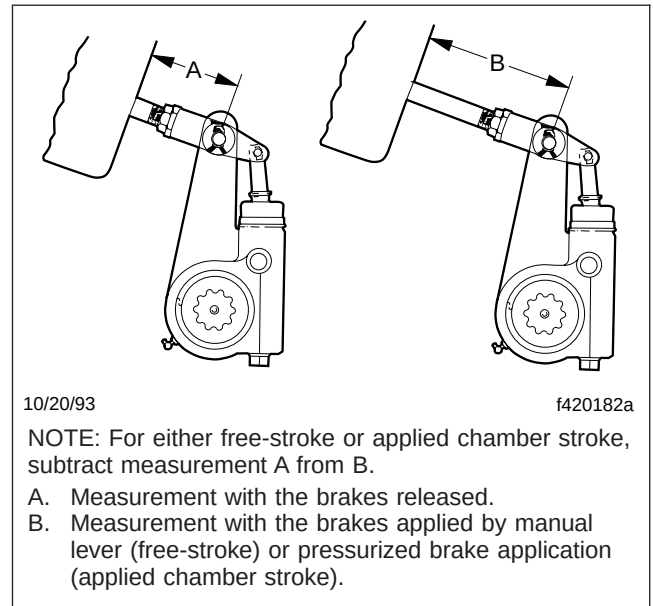

Fig. 3, Measuring the Stroke
- 7.2 With the brakes released, measure the distance from the bottom of the brake chamber to the center of the large clevis pin. Record this measurement as dimension A. See Fig. 3.
pin. See Fig. 3, Ref. B. Record this measurement as dimension C.
- 8.2 Measure the distance from the bottom of the brake chamber to the center of the large clevis pin. Record this measurement as dimension B. See Fig. 3.